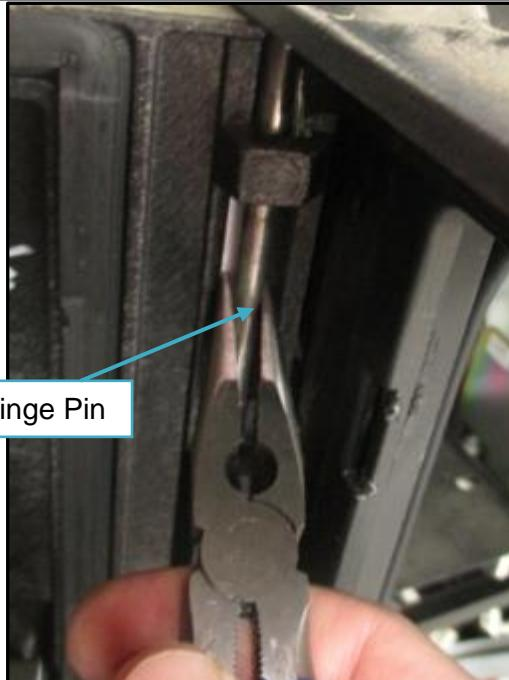

Fig. 1.12a – Firmly grasp the hinge pin with needle nose pliers
11. To remove the left option door, use a pair of needle nose pliers to grasp the hinge pin and lift it upwards and pull it up through the top of the door until it is completely removed. The hinge pin will be reused on the new OPT unit. DO NOT DISCARD THE HINGE PIN. (Fig. 1.12a,b,c)